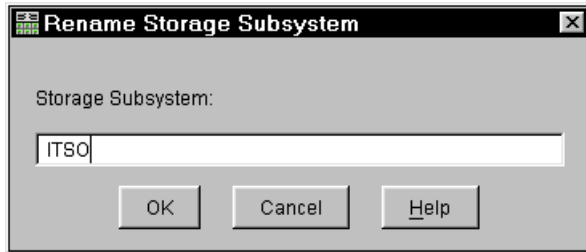

Figure 4-26 Renaming FAST
2. Enter a new name for the subsystem in the Rename Storage Subsystem dialog (Figure 4-26).